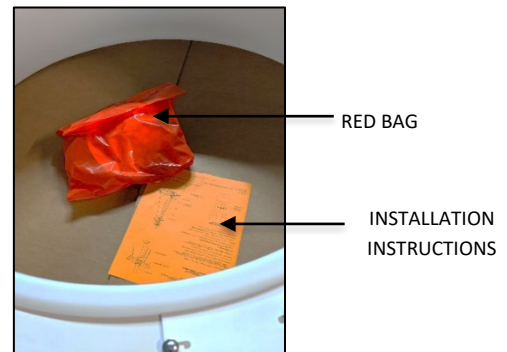

FIG.4 RED BAG AND
2. INSTALLATION INSTRUCTIONS (shown in FIG. 4) - Please completely read the install instructions before starting installation.
3. RED BAG (shown in FIG. 4)